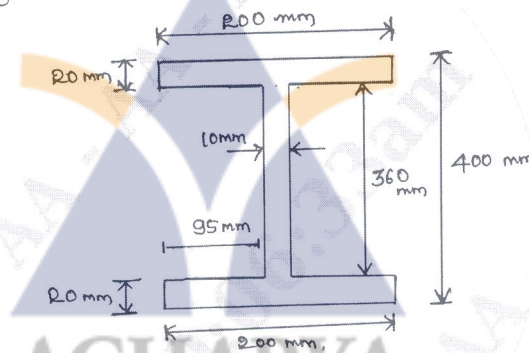

Fig.Q.5(c)
- c. Rolled steel joist of I section has dimension as shown in Fig.Q.5(c). This beam of I-section carries udl of 40kN/m run on a span of 10m. Calculate the maximum compressive stress produced due to bending. (10 Marks)